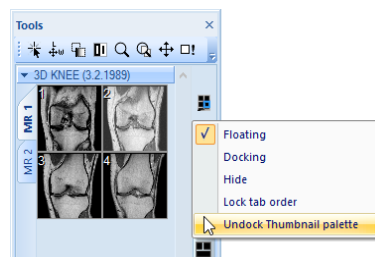

Figure 26 – Undocking the thumbnail bar from the Tools panel using the context menu
2. Select the **Undock thumbnail** item in the displayed context menu (see Figure 26).